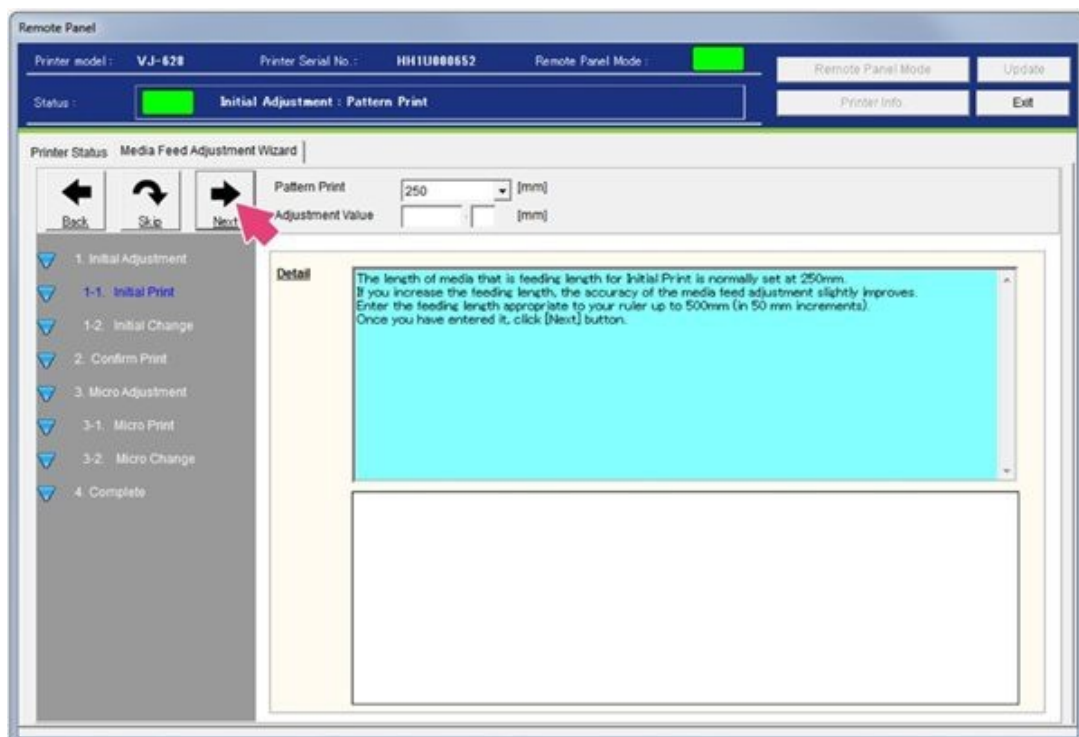

Figure 95
82. The length of media feeding length is normally set at 250 mm. If you increase the feeding length, the accuracy of the media slightly improves. Enter the feeding length appropriate to your ruler up to 500 mm. Once you have entered it, Select **Next** See Figure 95.